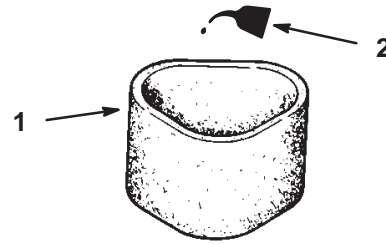

Figure 20
3. Put one or two ounces of oil on the element (Fig. 20). Squeeze the element to distribute the oil.